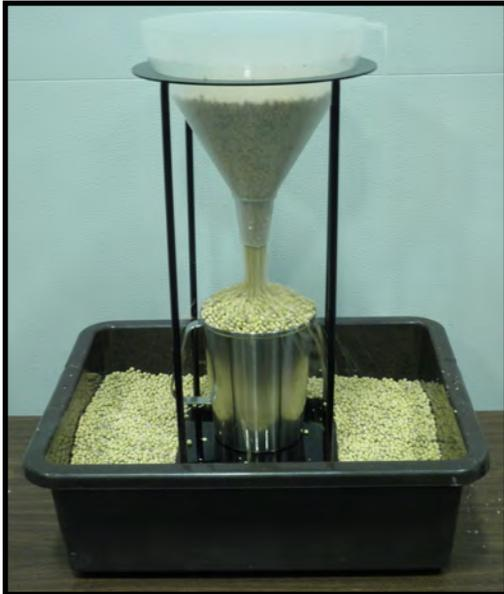

Figure 1
2. Place the funnel and stand in the seed to be treated or a separate container (see page 33, figure 1). This will help to avoid any unnecessary clean-up while filling and leveling the top of the seed calibration cup.
4. Place the calibration cup under the funnel stand and remove your hand from the bottom of the funnel, and allow the cup to be filled (see page 33, figure 1).